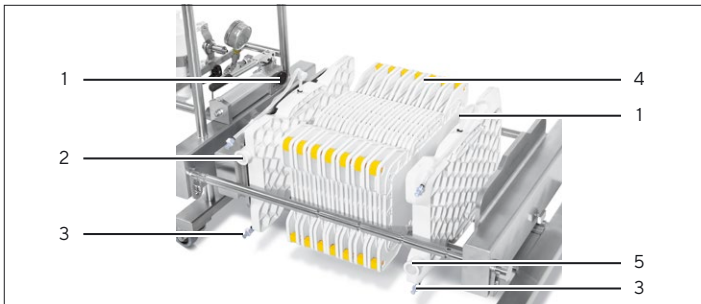

Fig. 5: Insert cassette(s) between the manifold inlet and outlet plates on the Pilot Filter Holder.
Procedure for Cassettes (see fig. 5)
- ▶ Place the cassettes (4, see Fig. 5) in the lowest possible position in the holder.
- ▶ The cassettes (4) used for chromatographic separation must originate from the same lot.
- ▶ Put the desired number of Sartobind® cassettes (4) between the manifolds (see Fig. 5).
- ▷ Close all DRAIN and VENT valves (1) of the manifold plates manually using the pinch clamp.